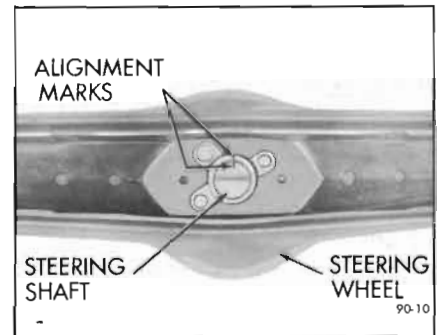

Figure 90-10—Steering Wheel and Shaft Alignment Marks
Road test car for ease of steering. If steering gear was adjusted to specified load limits and hard steering exists, the front suspension members should be checked for lubrication and alignment and tire inflation pressures should be checked. When the car is moving straight ahead, the steering wheel should be in the straight-ahead position, or not over 5/8" to either side of the straight-ahead position. If steering wheel is too far to either side, check wheel for proper position on steering shaft (Figure 90-10) and check tie rods for equal adjustment and toe-in. It is important to have the steering gear in the no-lash range when car is moving straight forward.
1. Install steering wheel and align location marks on shaft and hub of wheel. See Figure 90-10.